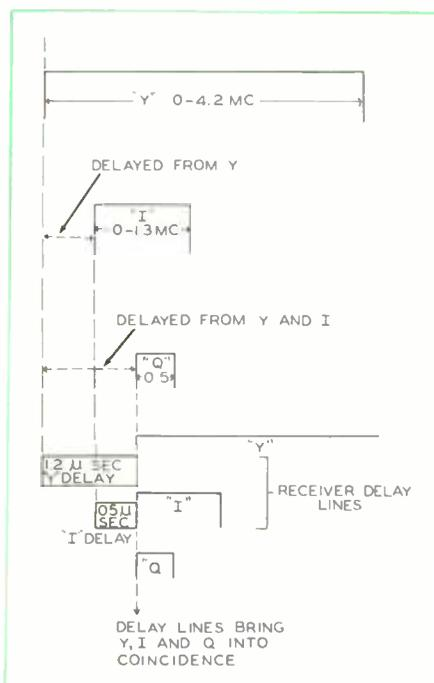

Fig. 10A. Time-Delay Requirements of the Y and I Delay Lines.
This subject is illustrated by Fig. 10A. Since delay is a function of the associated bandpass filters at the sending and receiver ends, the I channel is delayed from Y, and the Q channel suffers the most delay. Delay lines are used in the receiver to bring all channels into time coincidence, as shown in Fig. 10A. (The locations of these delay lines are shown in a block diagram which will be presented later in our discussion.)
or a helix cable. The number of sections determines the amount of signal delay. The longest line is therefore found in the luminance (Y) channel. Amounts of delay shown by Fig. 10A are approximate, since they are a function of the particular receiver design. Delay lines must effectively delay the entire envelope of frequencies; hence, they must not offset frequency response of the band concerned.